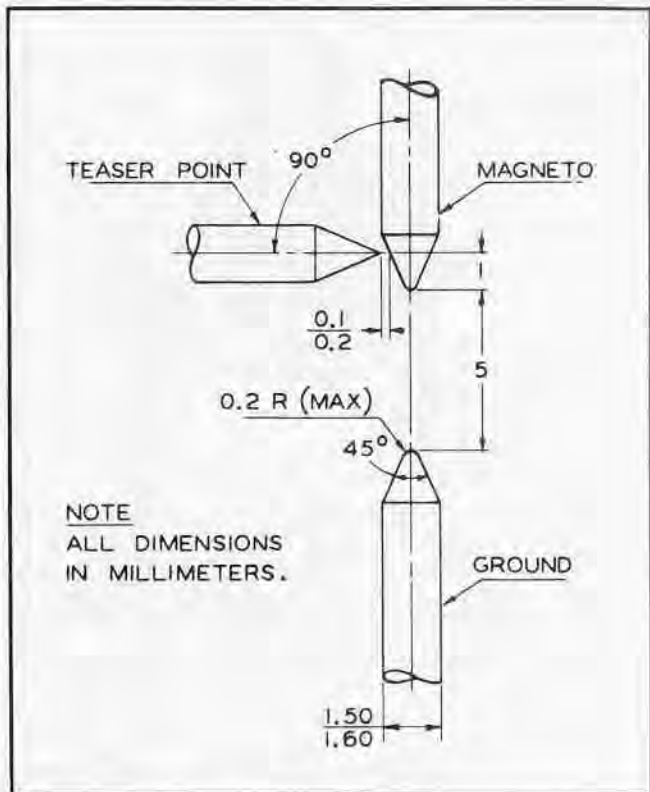

Figure 26. Spark Gap Setting
(1) With the adapter (LA Models) and distributor plate removed from the magneto, connect the high tension terminal on the coil with a suitable test lead to one of the test gaps set to a standard 5 mm opening as shown in figure 26. Run the magneto through a speed range to a maximum speed of 2000 R.P.M. for AM magnetos and 5000 R.P.M. for the LA models. The breaker assembly should operate without excessive arcing between the contact points. Excessive arcing may indicate a faulty condenser or loose connection. Oil, dirt or other foreign matter on the contact surfaces will also cause arcing between the points.
(2) With the adapter and distributor plate re-assembled to the magneto, connect the high tension